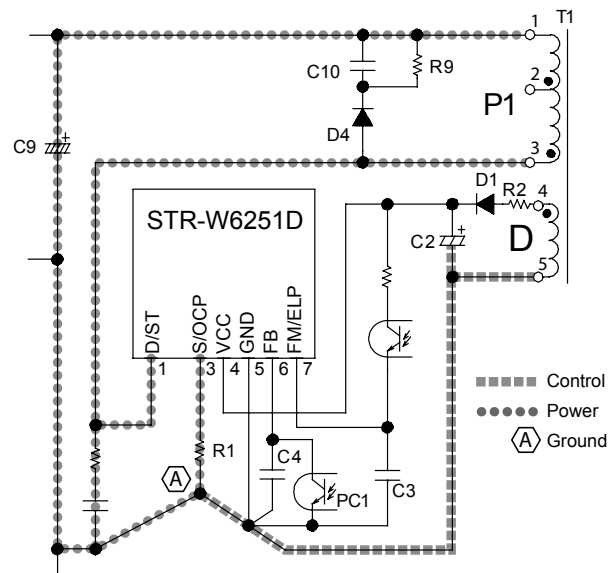

Figure 21. Peripheral component grounding
Place R1 as close as possible to S/OCP terminal. There should be a single point ground (A in figure 21) between the power ground circuit and the control circuit to avoid interference of switching current to the control circuit.
- **MOSFET.** When using a MOSFET, as in the circuit shown in figure 21, take into account the positive thermal coefficient of $R_{DS(ON)}$ when preparing your thermal design.